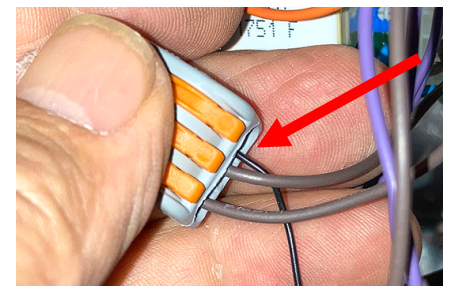

Figure 15
24. Locate the other Wago with the brown and black wires (see Figure 15).